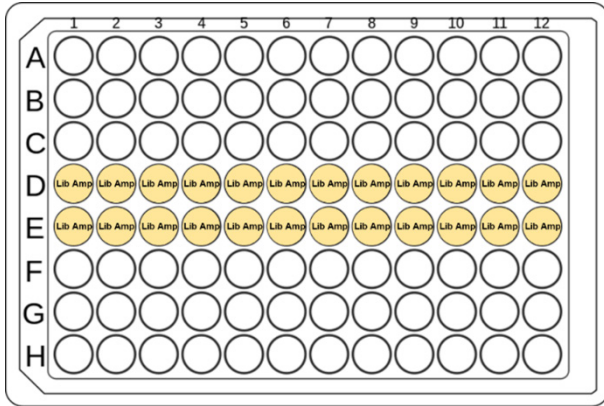

Figure 26: Library Amplification Master Mix (Lib Amp) in the Library Prep Master Mix Plate.
- Using a single-channel pipette, aliquot the **Library Amplification Master Mix (Lib Amp)** evenly across all 24 wells of Rows D and E of the 96–well **Library Prep Master Mix Plate** (Figure 26). Seal the plate and briefly spin to collect all liquid in the bottom of the wells, and place on ice. Ensure there are no bubbles present in the bottom of the wells.